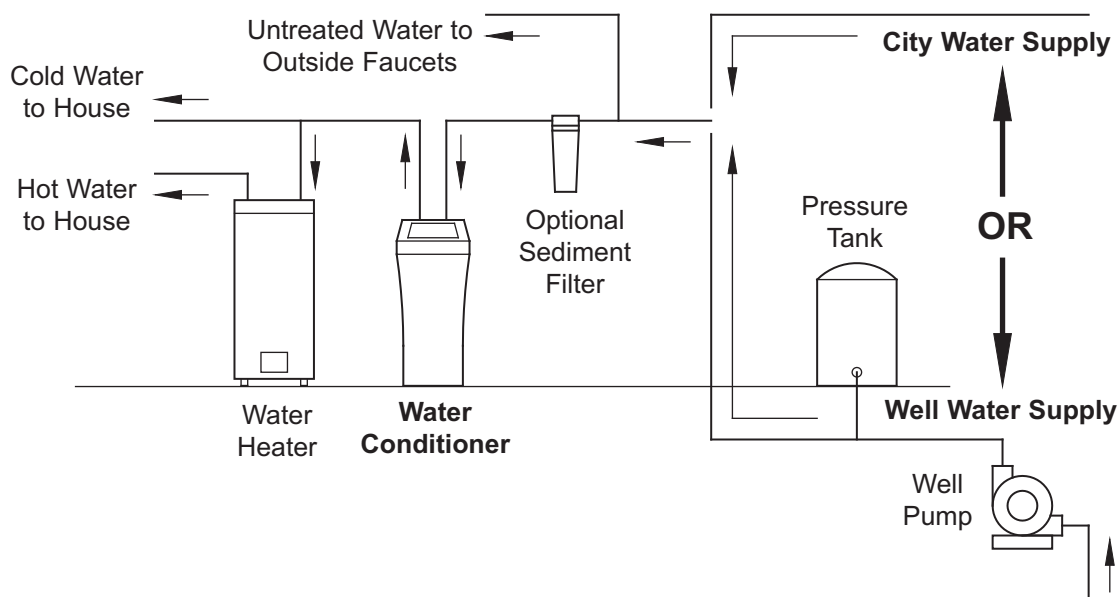

FIG. 3
- Always install the water conditioner between the water inlet and water heater. Any other installed water conditioning equipment should be installed between the water inlet and water conditioner (See Figure 3 below).